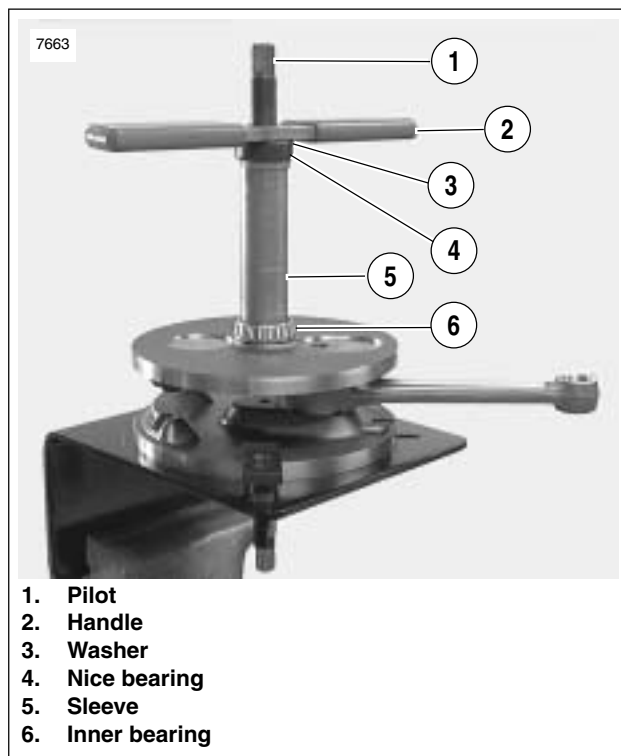

Figure 3-127. Inner Bearing Installation
See Figure 3-127. Use *SPROCKET SHAFT BEARING/SEAL INSTALLATION TOOL* (Part No. HD-42579) to install sprocket shaft tapered roller bearings and seal.
8. See Figure 3-127. Install inner bearing.